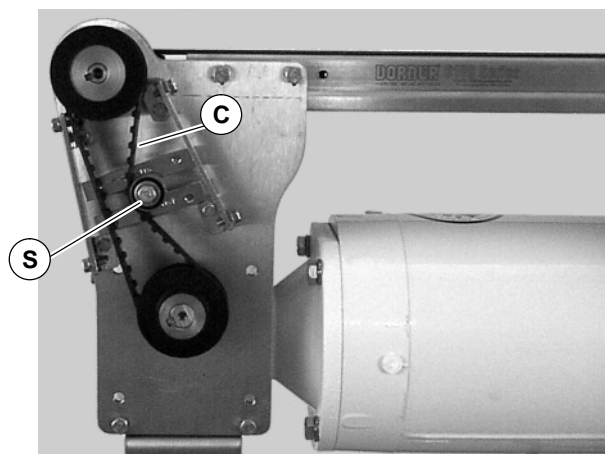

Figure 17
2. Loosen tensioner (S of Figure 17).